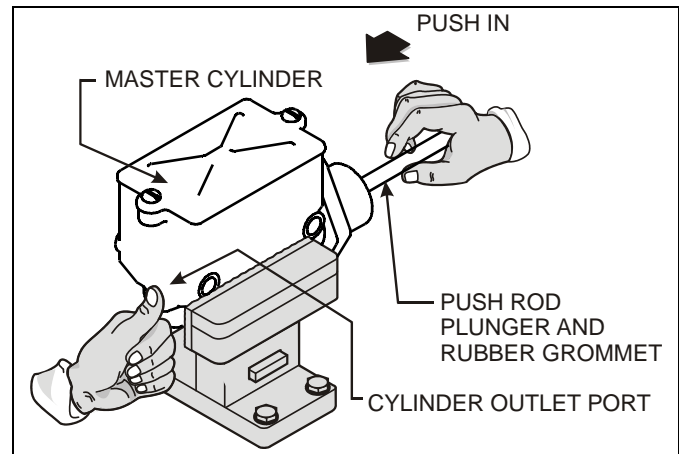

Figure 3-26: Bench Bleeding
- Support the cylinder in a vise to prevent fluid spillage, while allowing you to push the internal piston with the push rod. See Figure 3-26.
- Slowly push in on the rubber boot and cylinder plunger (push rod) assembly to force air from the cylinder, then hold the push rod in. See Figure 3-26.